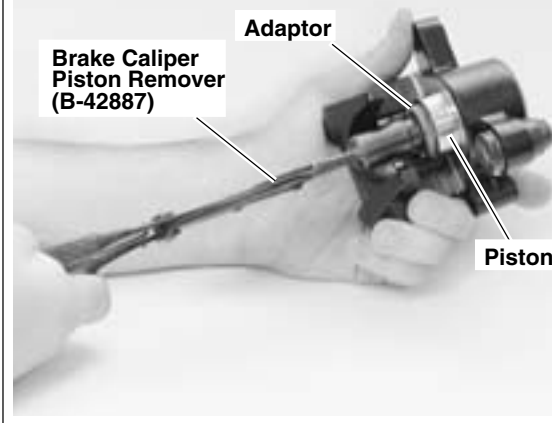

Figure 2-44. Removing Rear Brake Caliper Piston
3. See Figure 2-44. Remove piston (3) using BRAKE CALIPER PISTON REMOVER (1) (Part No. B-42887) with adaptor (2).
- See Figure 2-44. Install pistons and O-rings.